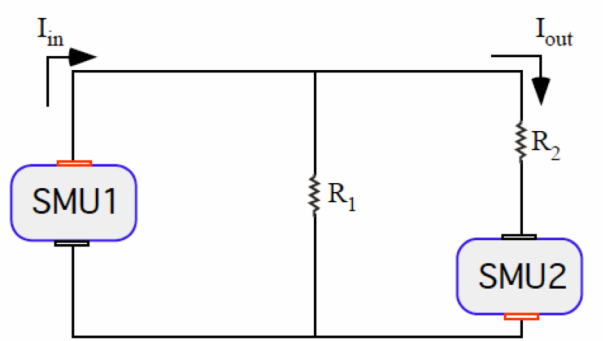

Fig. 10: Current Divider circuit with SMU connections.
- (a) **Build the Current Divider with SMUs:** Build the current divider circuit shown in Figure 10 with the same parts as the voltage divider. Get help from a TA if needed. Explain why SMU2 is connected with the polarity that is shown. Recall, R_2 is the 9.1 k Ω resistor.
5. Describe why the SMU polarities are given as shown in Figure 10 for the current divider.